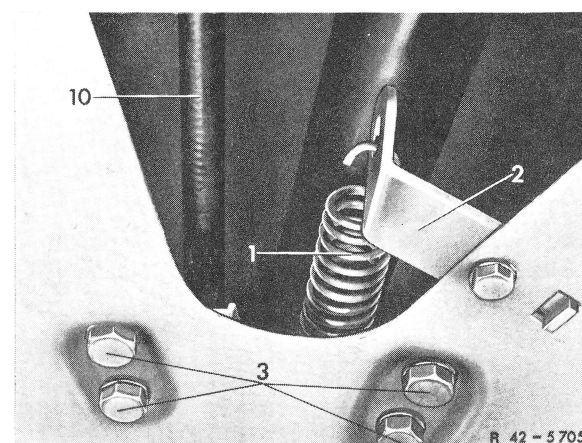

Fig. 3
5 Disconnect draw spring on bracket (2) (Fig. 3).
**9** Screw hex. screws (3) out of holder (Fig. 3).